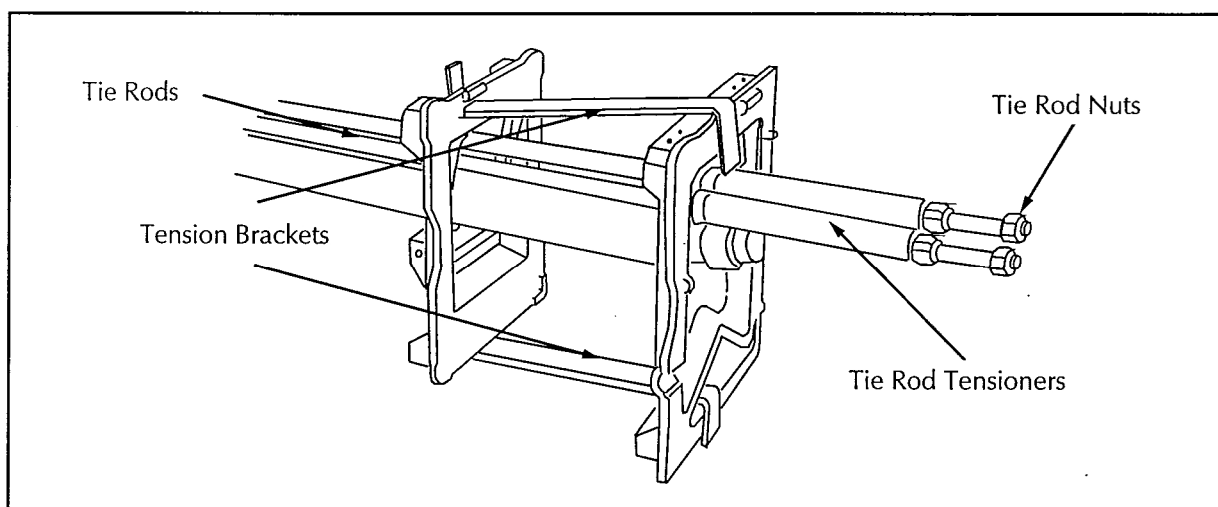

Figure 3
9. Install cylinder tension brackets on #2 and #3 bottom castings per figure 3. Remove tie rod nuts and install the tie rod tensioners per figure 3. Remove all slack from the chains by tightening the tie rod tensioners.
**NOTE: Cylinder assembly must have Tension Brackets, and Tie Rod Tensioners installed per figure 3 prior to installation.**